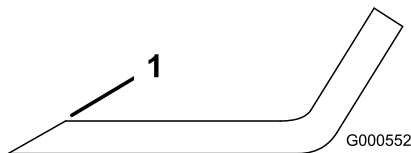

Figure 55
Note: If the blade is not balanced, file some metal off the end of the sail area only (Figure 55).
- Use a file to sharpen the cutting edge at both ends of the blade (Figure 55).